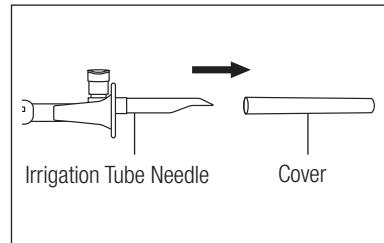

Fig.21
- The cover for the Irrigation Tube Needle cannot be autoclaved. Remove the cover when sterilizing the Irrigation Pump (Fig. 21). In that case, be careful that the Irrigation Tube Needle does not pierce the autoclave pouch. A needle protruding out of the pouch may cause injury.